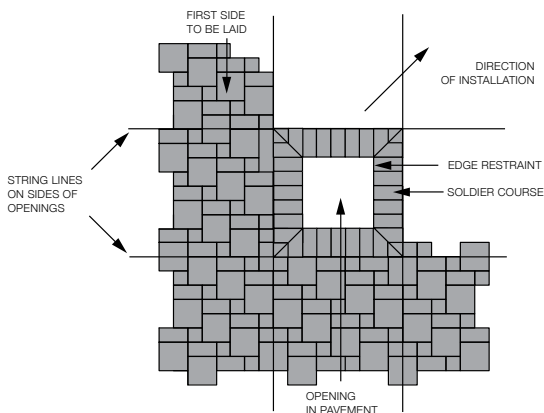

Figure 22. Paving around an opening or obstruction.
**Openings or obstructions installation** - For the installation of pavers around openings, like tree wells, man holes, planters and other landscape constructions, there must be an adequate edge restraint in place around the opening against which to place the pavers. This is typically plastic, steel, aluminum or concrete (Figure 22).